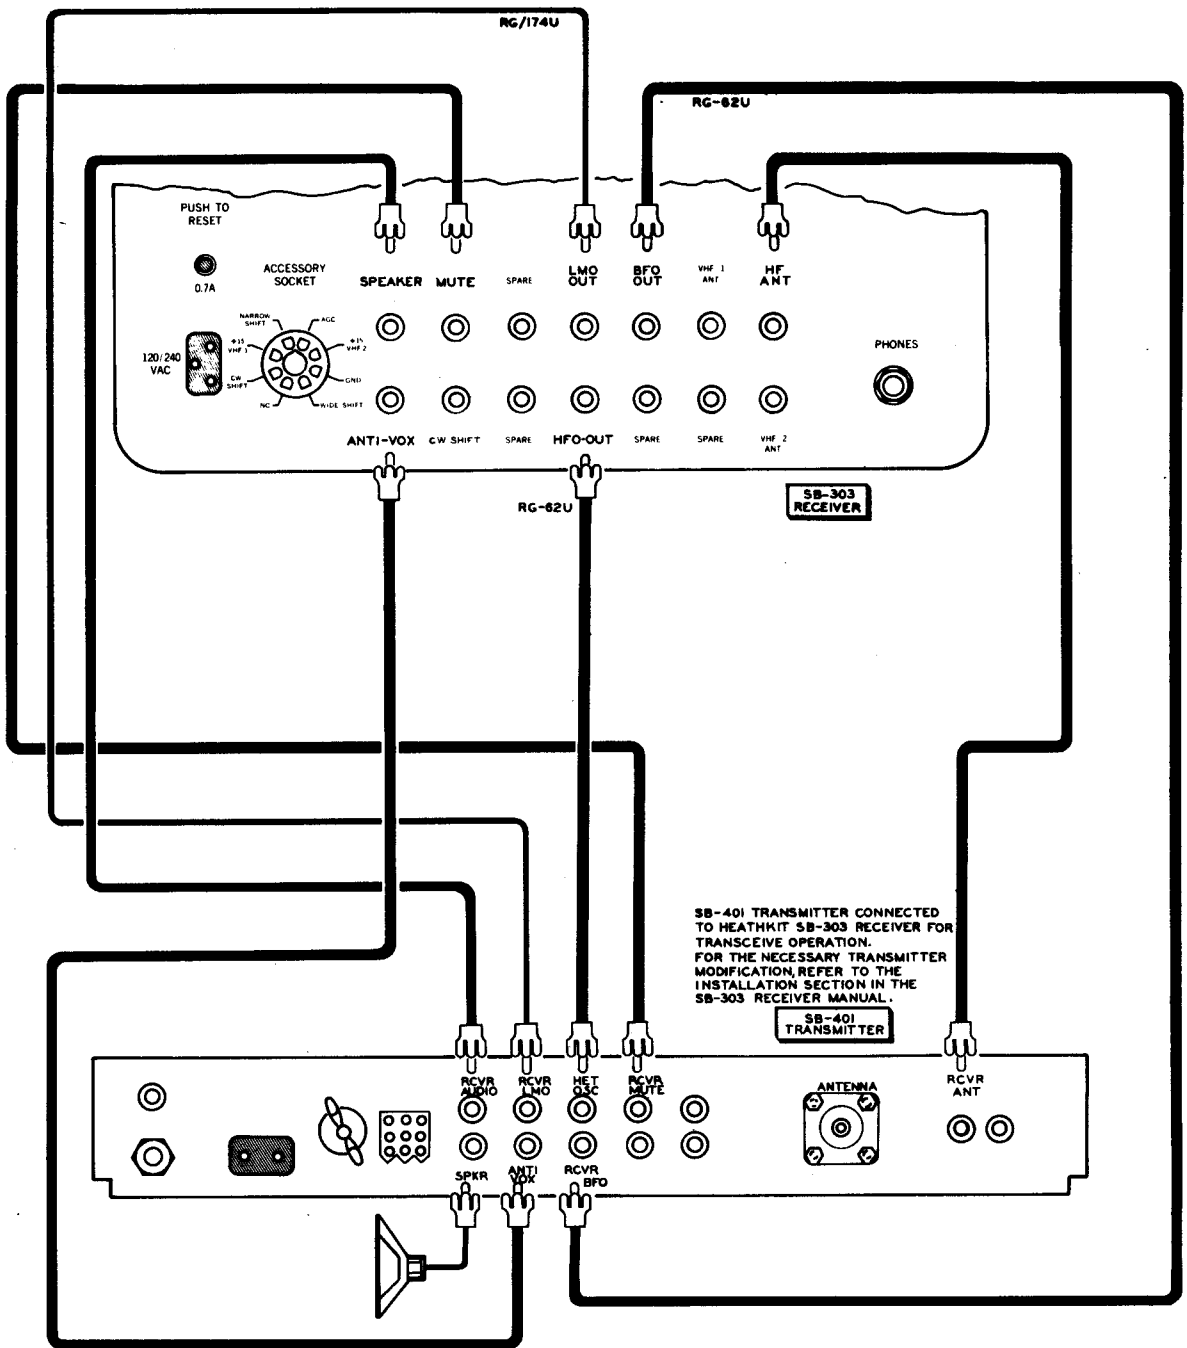

Figure 2-1A
If the Accessory kit is not going to be used, the Transmitter should be connected to an SB-303 or SB-301 Receiver. Refer to Figures 2-1A and 2-1B on the fold-out from this page.
- () Connect the SB-401 Transmitter to the SB-303 Receiver as shown in Figure 2-1A.